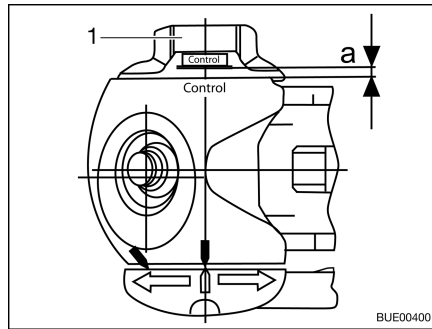

Fig. 97 Friction control
- Turn the handwheel (Fig. 97, 1), until it can be heard and felt that the torque limiting mechanism grates. Direction of rotation: In a clockwise direction.
- Distance a > 0 (Fig. 97): Wear within the permissible range.